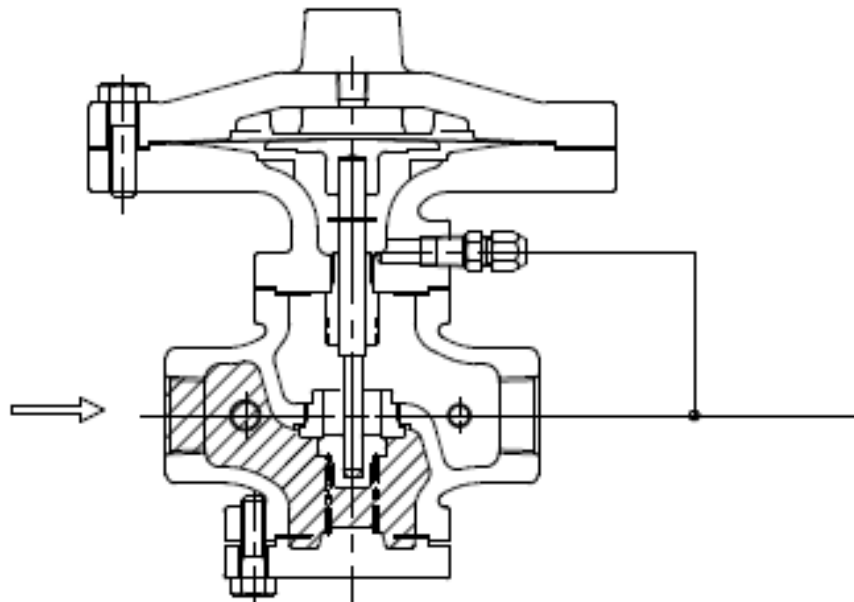

Fig.1
- (1) When the pressure reducing valve is mounted correctly, the main valve [5] should be closed by the main valve spring [12] when a no-pressure condition is made by a standard control unit, etc. When the inlet gate valve is gradually opened, allowing the high-pressure fluid to flow in, the inlet pressure will be applied to the back side of the main valve. (Fig. 1)